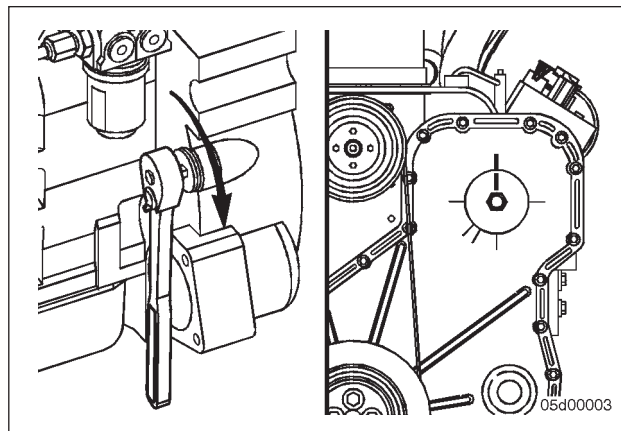

FIG. 8
1. The TDC mark on the fuel pump gear should already be at 180 degrees from TDC. In this position the engine brake slave lash on cylinders 2, 4, and 6 can be set. (Fig. 8)